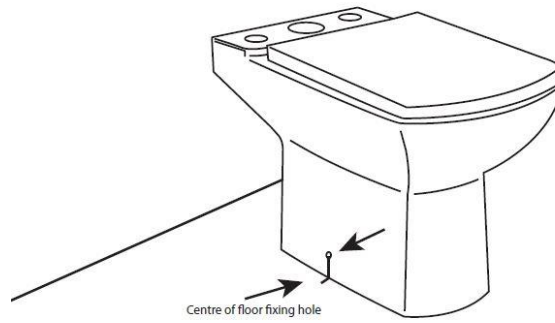

Fig : 1
2.Place the basin on the pedestal close to the wall and gently manoeuvre into thefinal installation position.Ensure that the basin is level using a spirit level is flush against the wall.(see fig.1)
1. Place inlet valve (F) through inlet hole with rubber washer (G) inside the cistern. Secure with backnut (H) but ensure float moves freely up and down flush valve (see Fig 1).